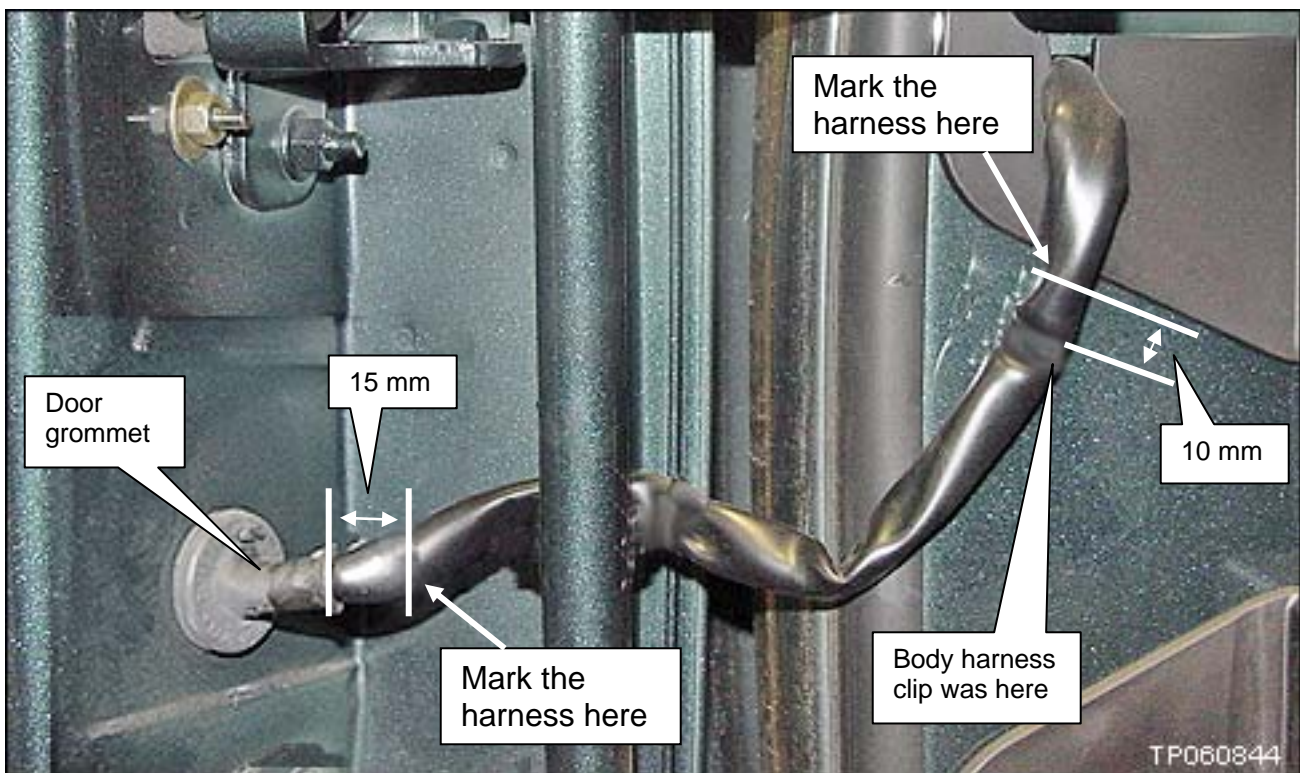

Figure B2
5. Mark the harness vinyl tube 10 mm above the spot where the body harness clip was located (see Figure B2).
6. Mark the harness vinyl tube 15 mm from the door grommet (see Figure B2).